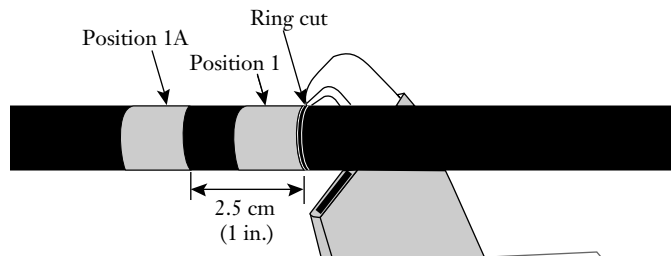

Figure 15
**6.1** Using a hook blade knife, make a ring cut through the outer sheath of the cable at the Position 1 tape mark. *Use care to avoid damaging the buffer tubes* (Figure 15).